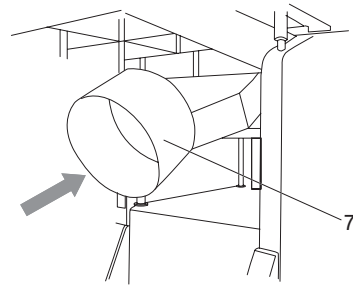

Fig. 20
- > Finally, fit the extraction port adapter (7) by simply sliding it over the extraction port as in Fig 20.